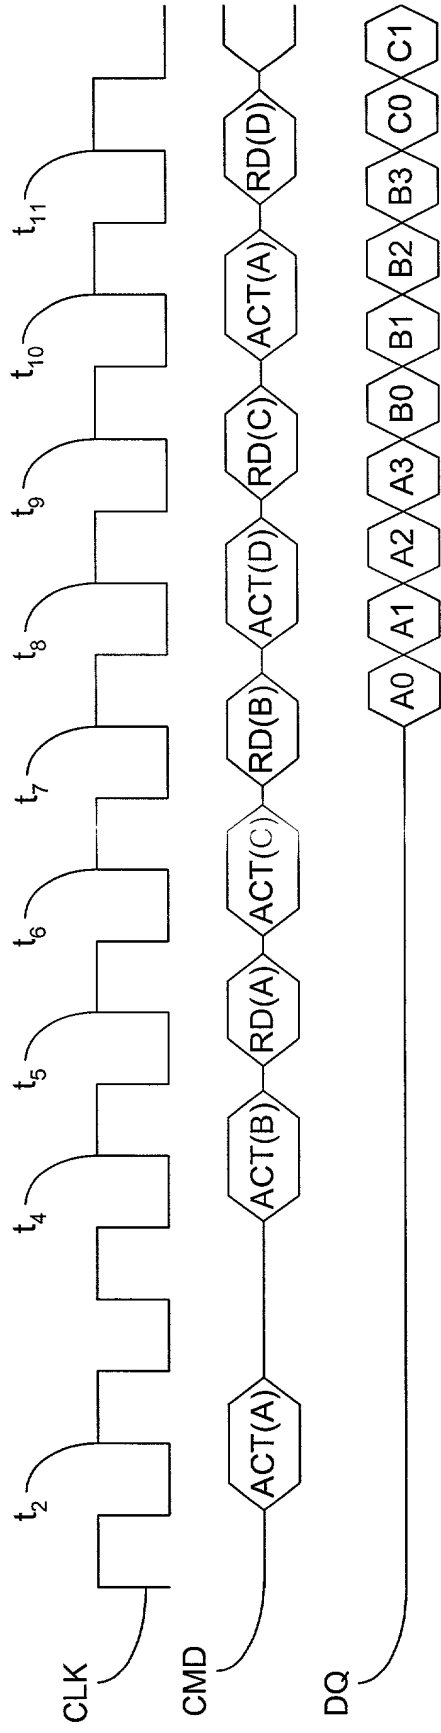

FIG. 18
FIG. 18 is a timing diagram illustrating the sequence of operations for the memory device. The diagram shows the relationship between the clock signal (CLK), the command signal (CMD), and the data signal (DQ) over time. The operations are performed in a sequence of 11 clock cycles, labeled t₂ through t₁₁.